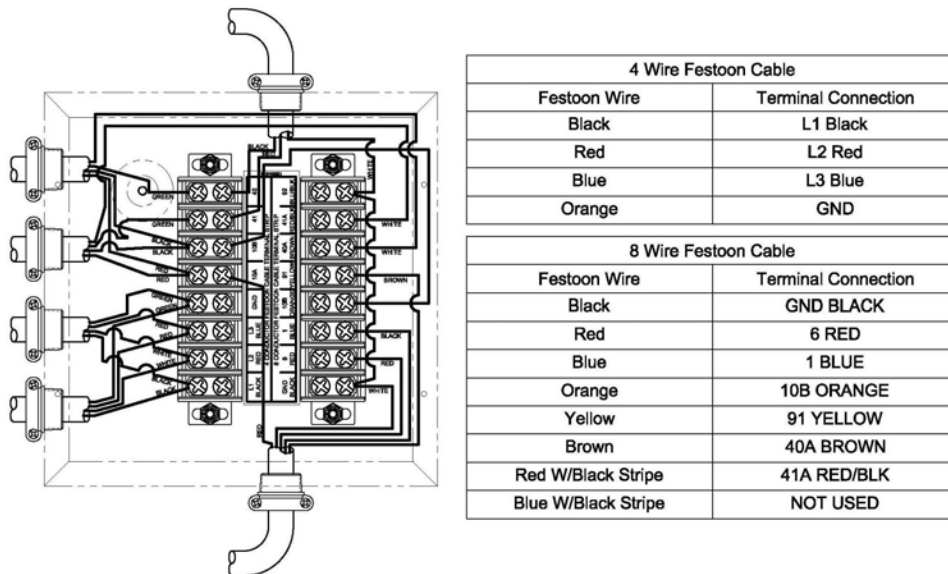
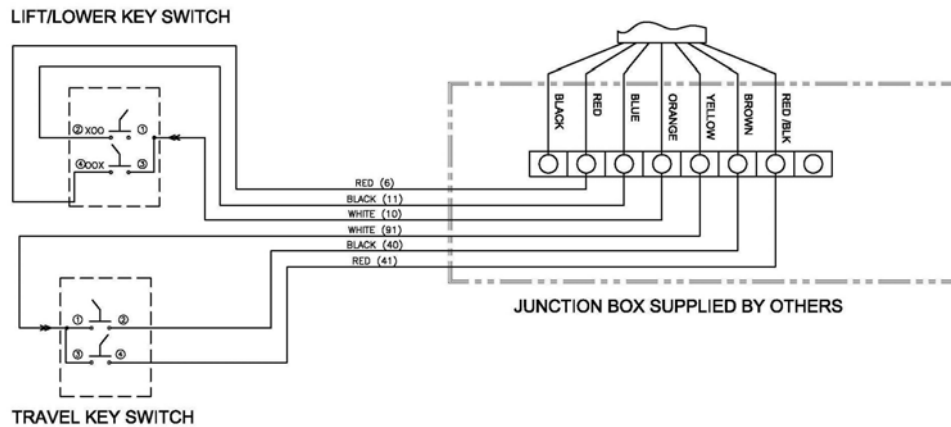

Figure 7
Figure 8
- When local electric codes require a fused disconnect (Supplied by others), make connections of one end of the 4 wire festoon directly in the fused disconnect box. Make connections of the other end in the festoon junction box located on the mat carrier assembly. Refer to figure 7 for festoon junction box connections.
- Use the 8 wire festoon cable for switch wire connections. Make connections in the festoon junction box as shown in figure 7. Refer to figure 8 for key switch festoon connection.